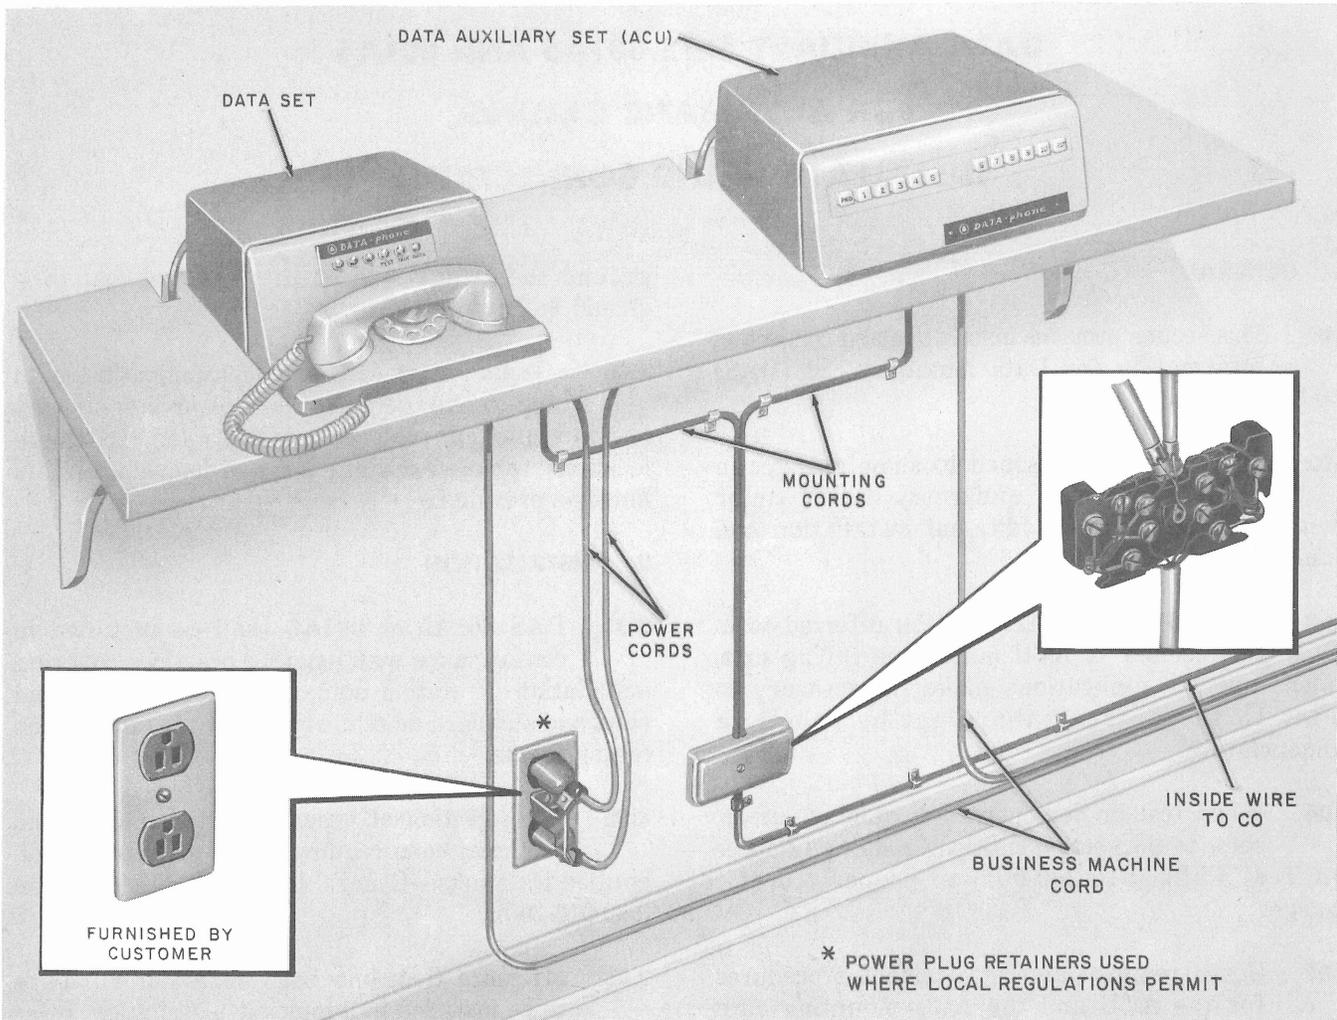
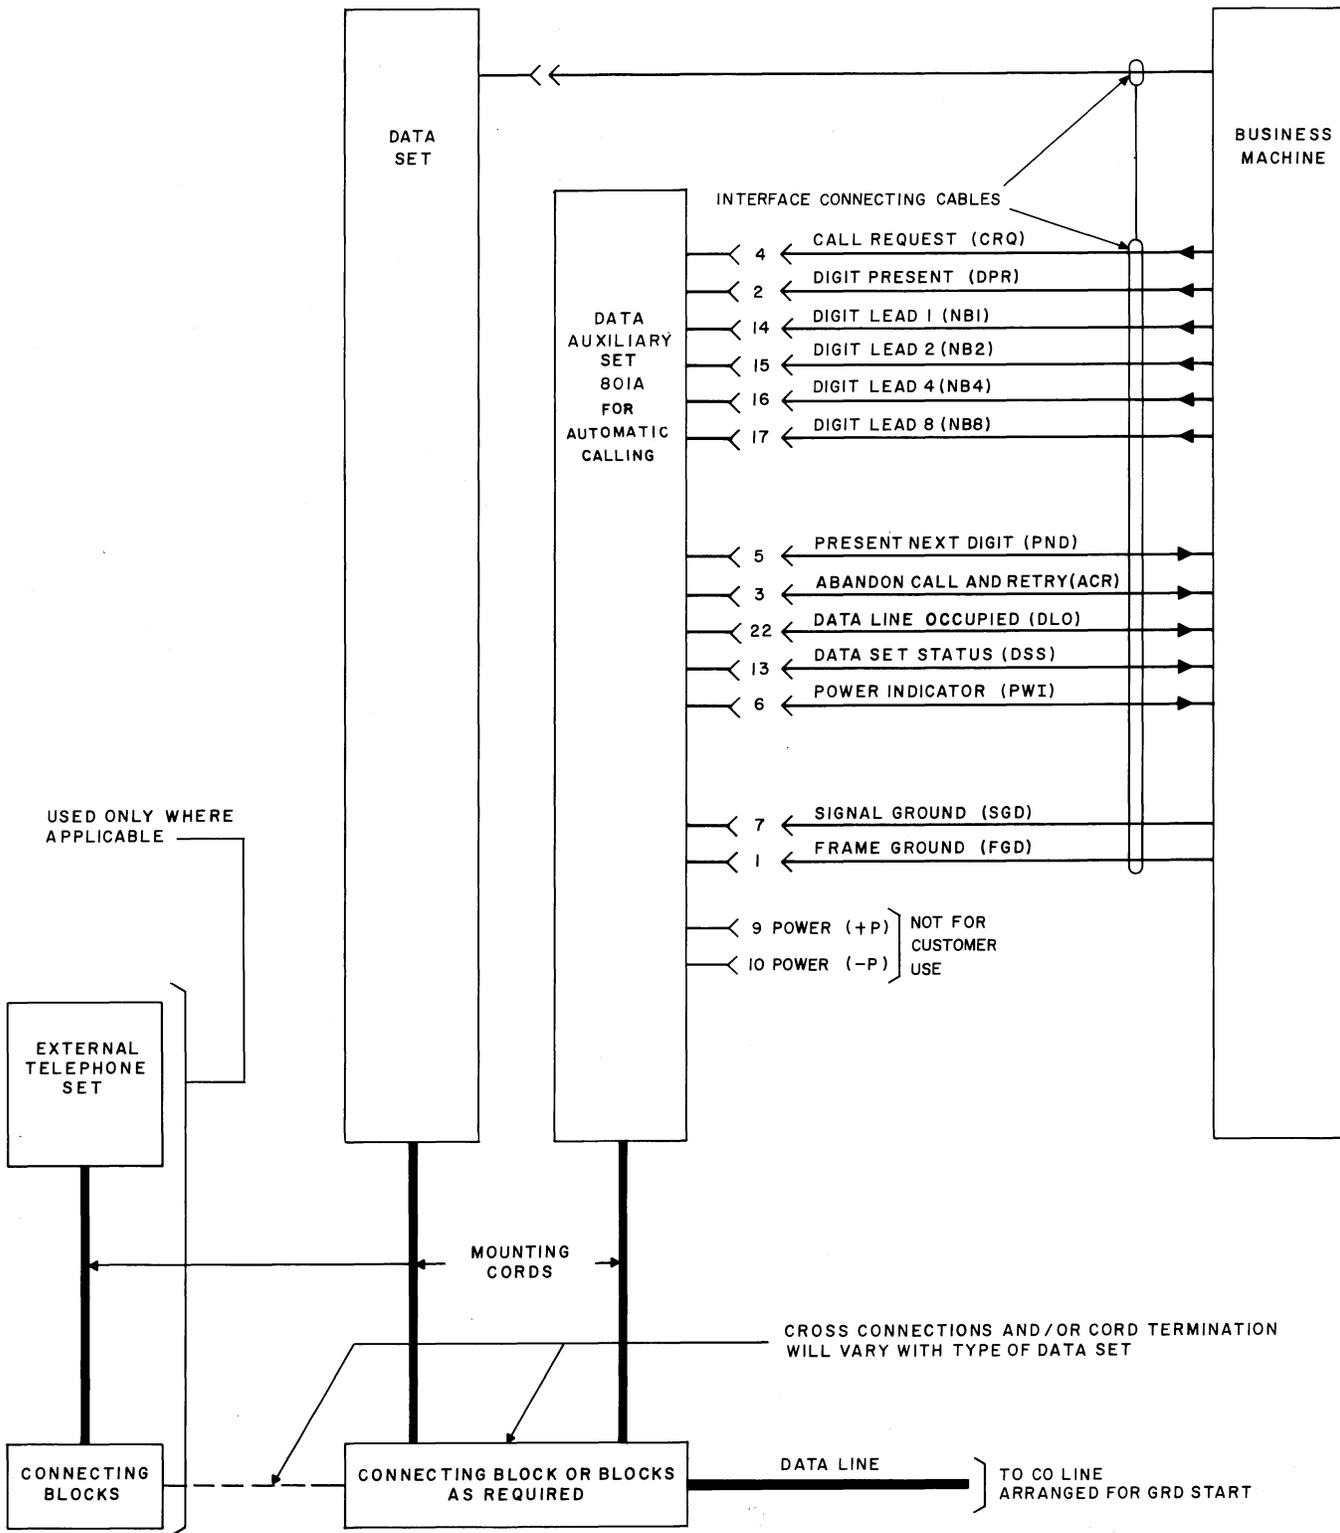

Fig. 1—Main Components of a Typical Installation Using a Single ACU and Integral Data Set
Fig. 3—Block Diagram of a Typical Installation
2.06 Figures 1 and 2 illustrate the main components and the arrangement of these components in typical installation. Figure 3 illustrates a block diagram of a typical installation.